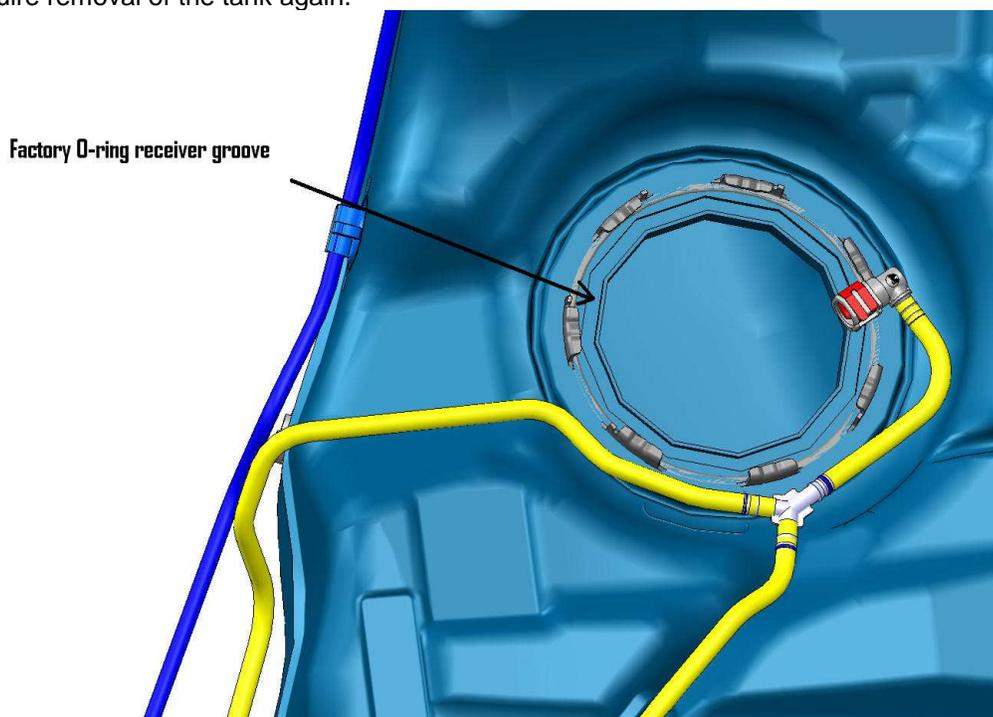

FIGURE 1-6
16. Make sure to place the factory o-ring in the receiver groove on the tank **Figure 1-6**. Failure to do so will result in fuel leakage and require removal of the tank again.